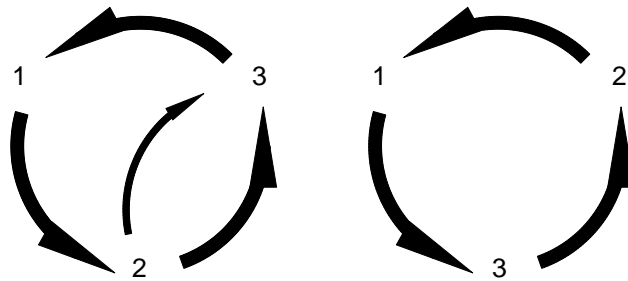

Figure 16
6. Press both cut buttons simultaneously to activate the motor and check to make sure it is turning the same direction as the arrow on the motor casing. If it isn't, disconnect the power and simply exchange any two leads of the power cord as in Figure 16. The motor will now turn the correct direction. Double check to make sure.